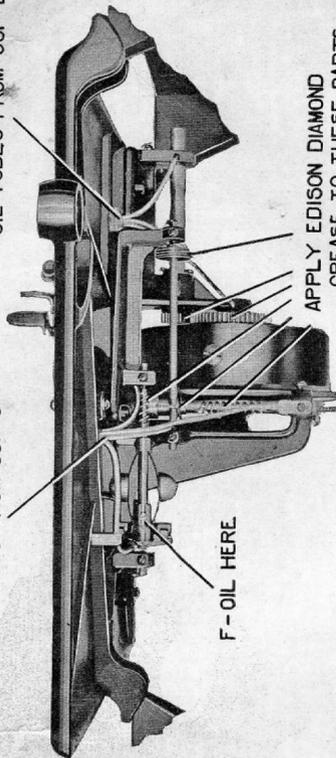

Fig. 3
- F (Fig. 3) Governor Sleeve (two or three drops).
- (e) Apply Edison Diamond Grease freely to those parts indicated in (Fig. 3).